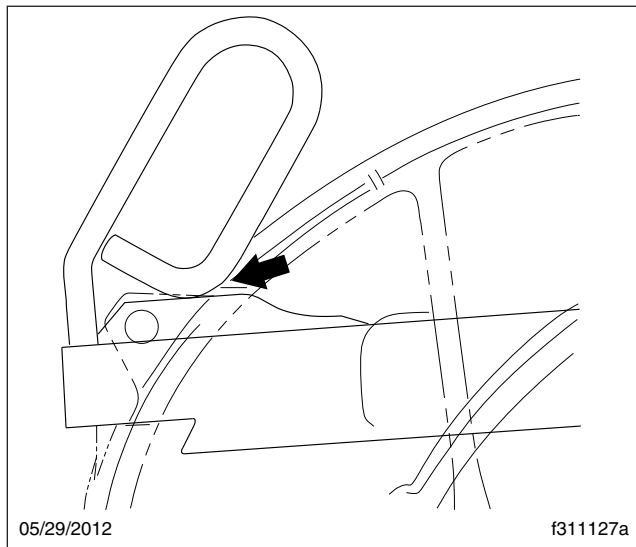

Fig. 17.6, Jost Release Handle Locked
11. Ensure that the release handle is in the locked position adjacent to the casting. See Fig. 17.6.